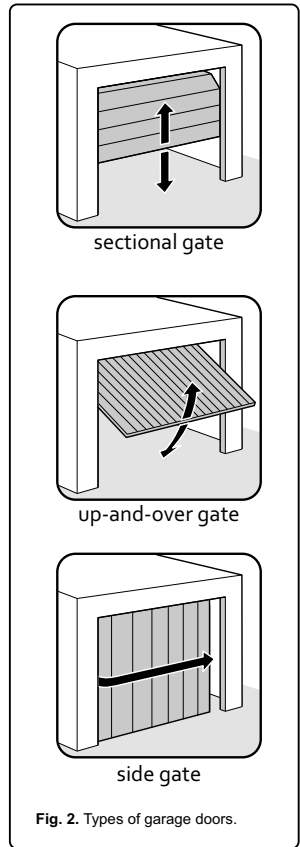

Fig. 2. Types of garage doors.
- The basic set enables the automation of sectional gates with an ordinary running rail - it is recommended to use a "boomerang" type handle, with a double running rail - without a "boomerang", overhead gates - without a "boomerang" and side gates, fig.2;